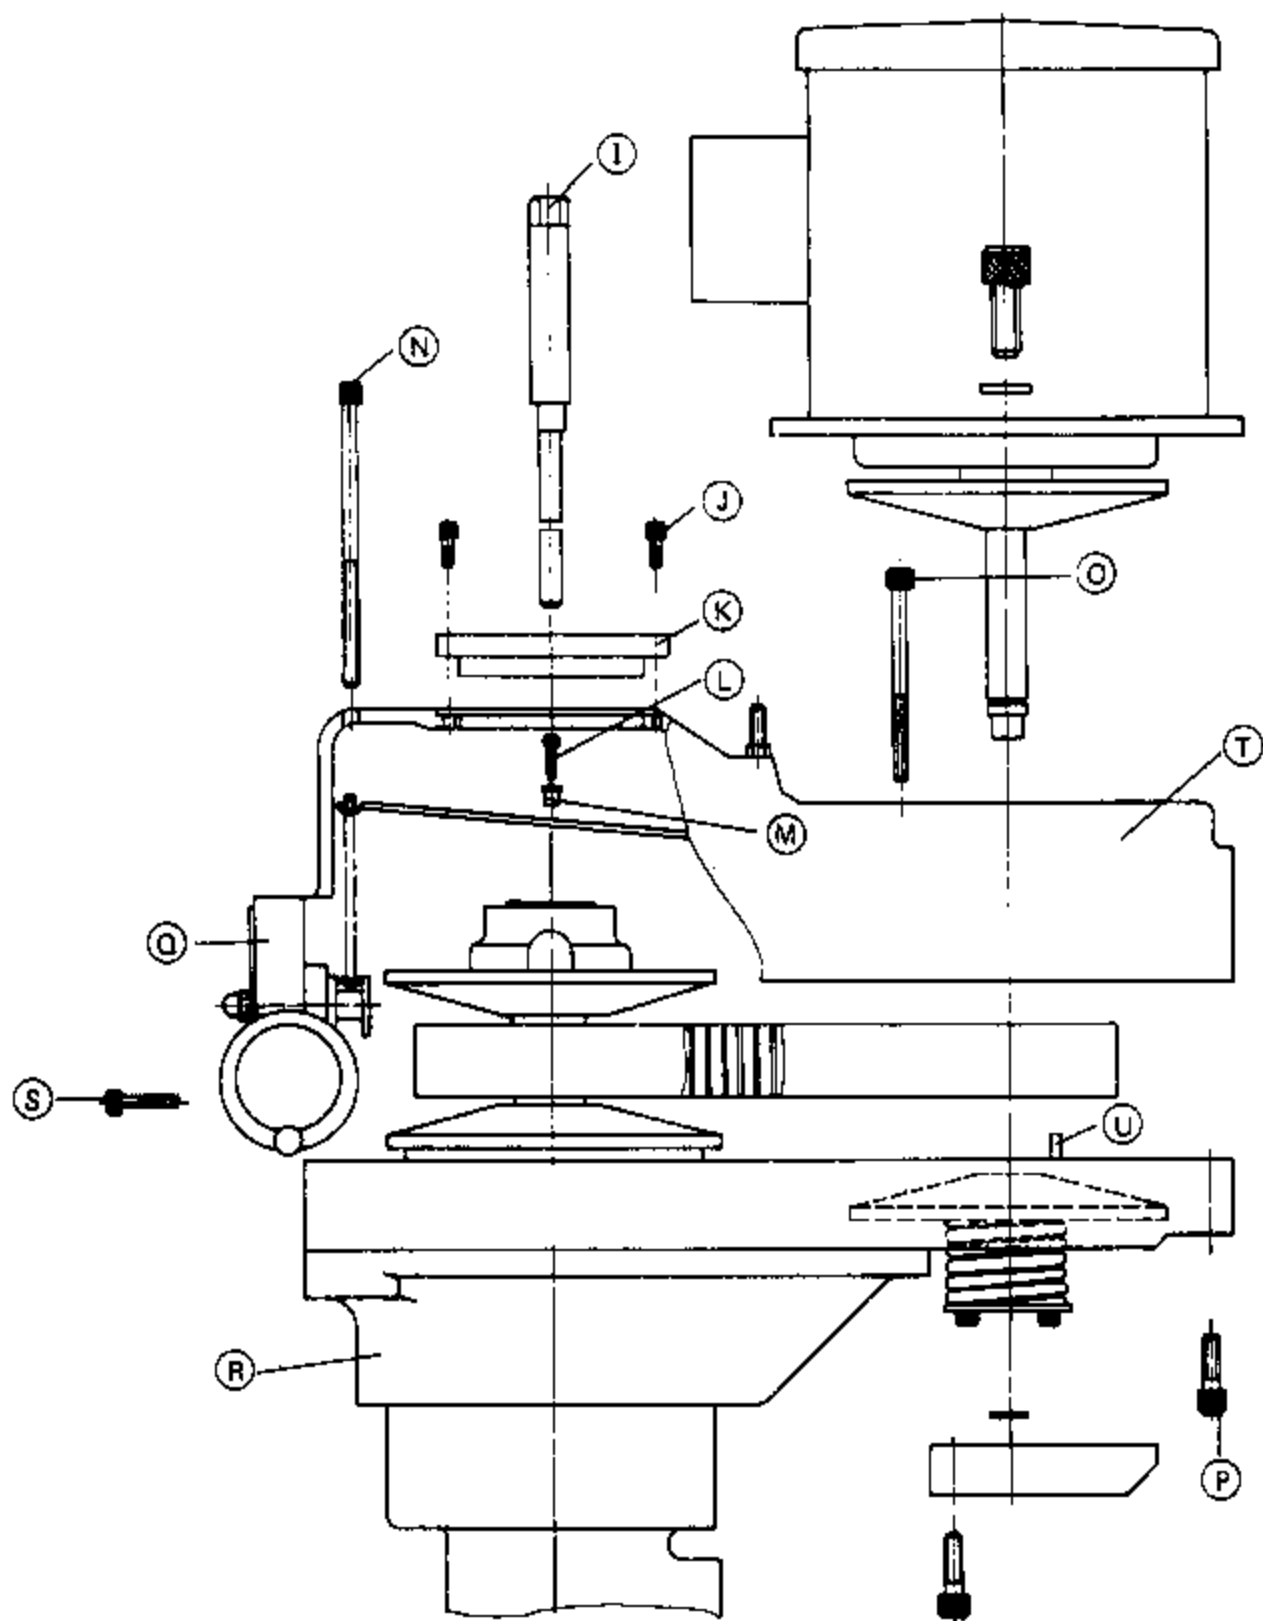

Figure 24
(1) Dismantling of 1½ V5 & 4KV Motor (as shown in Figure 24):
- a. Start the motor and turn the speed change handwheel (A) to the position of 60RPM appeared on the indicator to lower down the stationary motor vari-disc to the lowest position.**
- c. Remove motor pulley cover (B) under the motor shaft. Then, use the two hexagonal concave bolts (C) that locked the bearing housing, to insert into the two holes of the speed change spring pieces (D). Lock into the motor vari-disc (E) and evenly lock up the two bolts (C). Push down the speed change spring (F) so as to separate it from the retainer ring (G).**
- d. Take out the retainer ring (G).**
- e. Take off the two hexagonal bolts (H) that locked the motor. The motor may be lifted up. Motor vari-disc (E) and speed change belt are still kept inside the belt housing.**
(2) Replacement of Speed Change Belt (as shown in Figure 24)
- b. Take off draw bar (I).
- c. Dismantle the three hexagonal concave bolts (J) and use two of them (J) to lift the bearing housing (K).
- d. Remove from atop the two hexagonal concave bolts (L), fixing the speed change plate, and take off the bolt sleeves (M).
- e. Dismantle four hexagonal concave bolts (N) (O) and the two at the bottom (P).
- f. Take off the two hexagonal concave bolts (S) speed change housing (Q) and gear housing (R).
- g. Use a mallet and hit the upper belt housing (T) lightly so that it will break away from the fix pin (U) for dismantling of the upper belt housing.